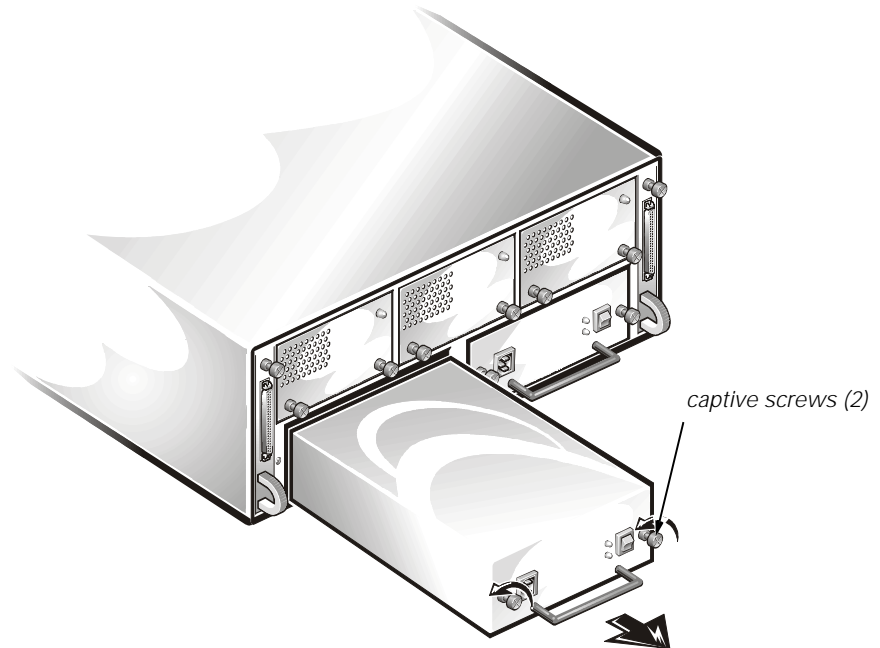

Figure 5. Removing a Power Supply on a Redundant System
2. Holding the handle on the power supply, carefully pull the power supply out of the power-supply bay (see Figure 5).